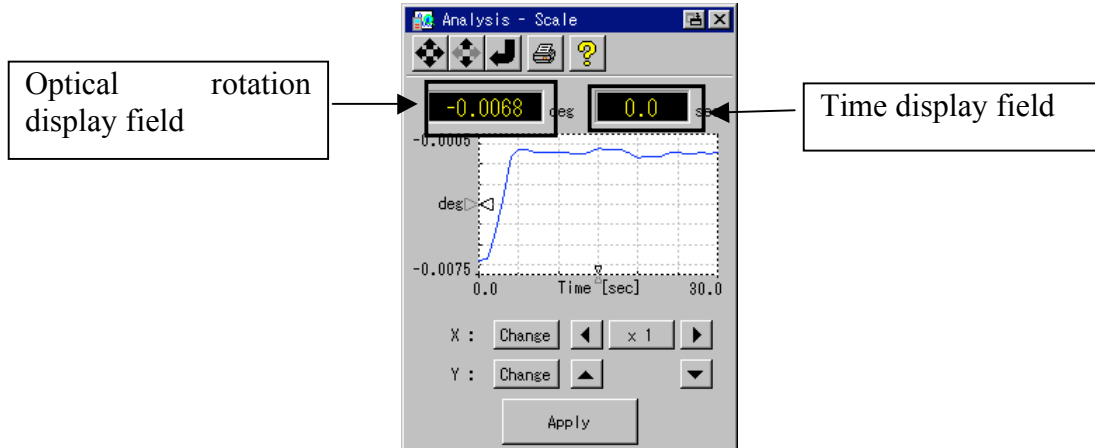

Figure 5.15 Scale window
- 1) Press the <Scale> button in the analysis window to display the window shown in Fig. 5.15.